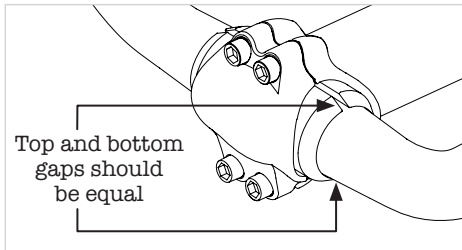

Figure 2
3. The gaps between the two shim pieces top, bottom and sides must be evenly spaced for adequate clamping force. (figure 2)